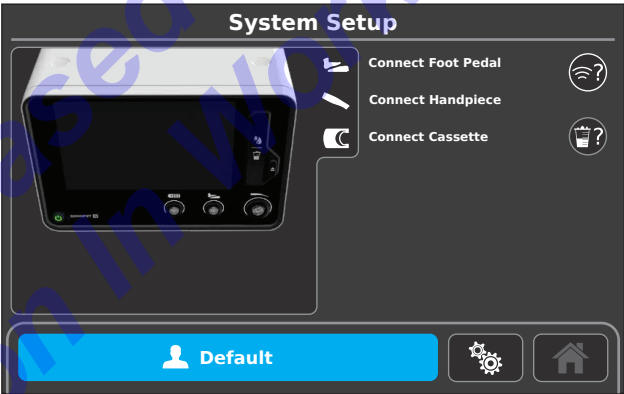

Figure 52 – Preset Access
- From the SYSTEM SETUP screen or HOME screen, touch the PRESET roll-up button (Figure 52).